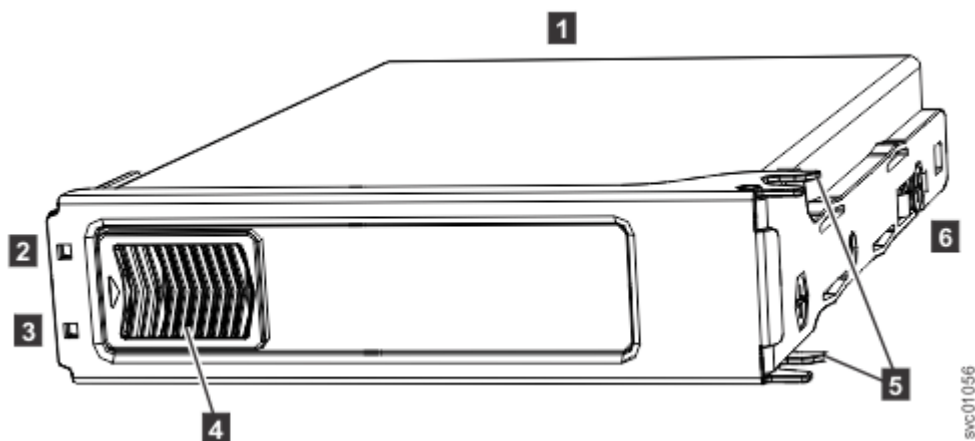

Figure 70. LEDs on a drive assembly
Figure 70 on page 80 shows the components of a drive assembly. Each drive has an online indicator (2) and fault indicator (3).